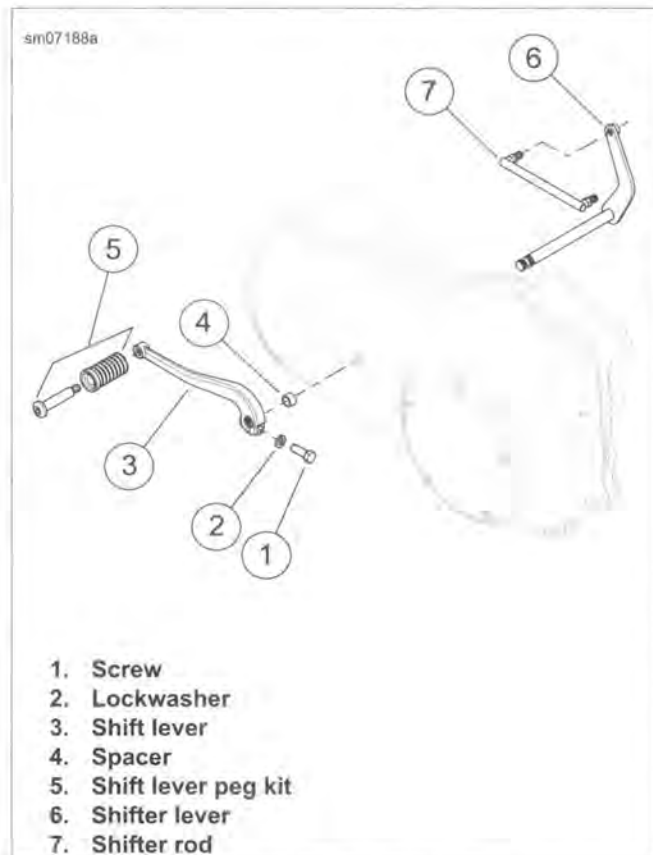

Figure 6-3. Mid-Control Shifter Linkage
See Figure 6-3. Not all models are equipped with adjustable linkage.
1. See Figure 6-3. Remove screw (1) and lockwasher (2).
2. Slide shift lever (3) off shifter lever (6). Raise or lower shift peg end of shift lever to adjust for rider comfort.